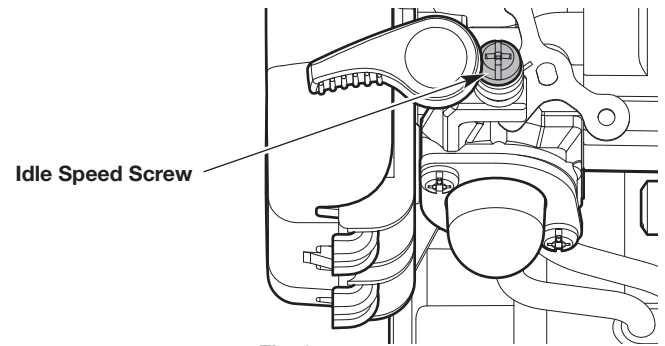

Fig. 27
- If the engine stops, increase the idle speed. Use a small Phillips screwdriver to turn the idle speed screw clockwise, 1/8 of a turn at a time, until the engine idles smoothly (Fig. 27).
- If the cutting head spins when the engine idles, reduce the idle speed. Turn the idle speed screw counterclockwise, 1/8 of a turn at a time, until the cutting head stops moving (Fig. 27).